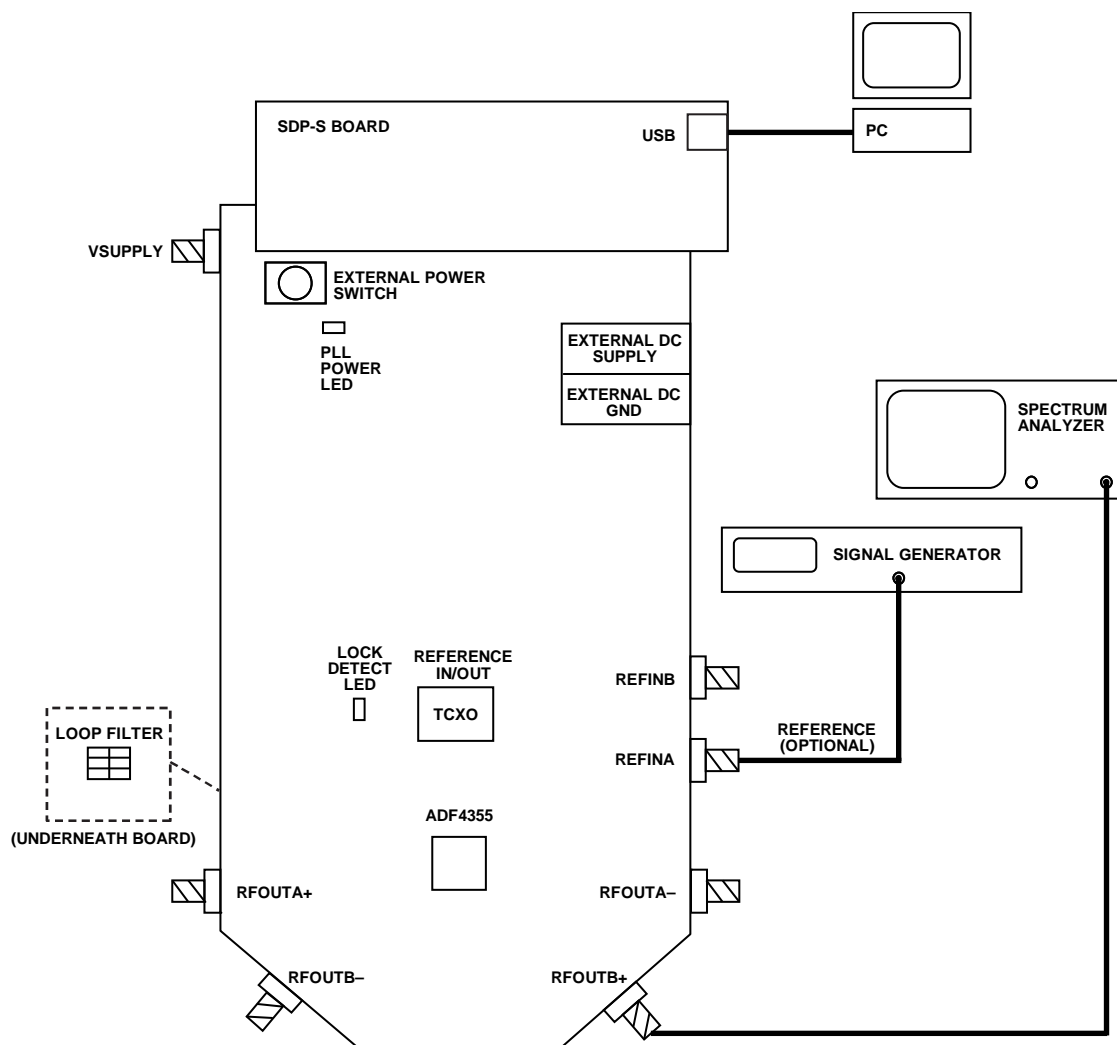

Figure 4. Evaluation Setup Block Diagram
11. Connect the spectrum analyzer to SMA connector RFOUTA+, see Figure 4 for a typical evaluation setup.